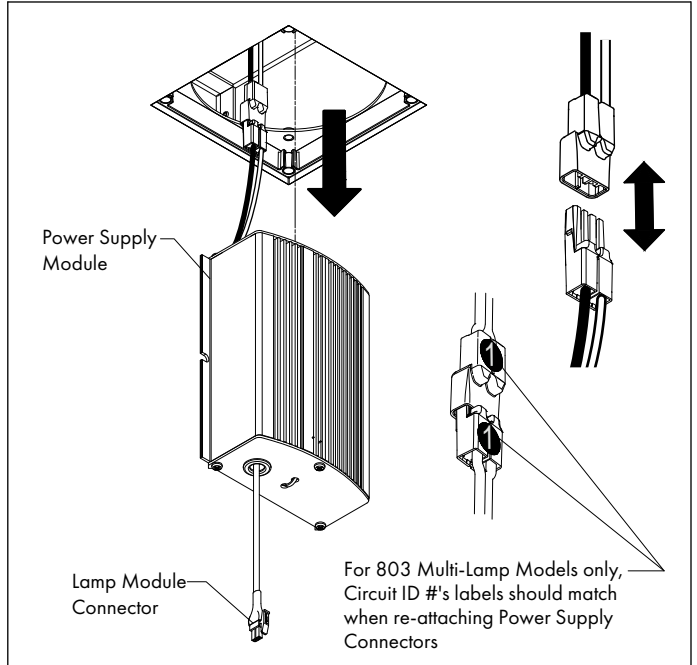

FIG 9.4 Replace with Retrofit Power Supply Module
STEP 3 Pull Power Supply Module through ceiling aperture & disconnect all wire connectors - **FIG 9.4**.
For Retrofit Replacement: Replace all parts in steps above in reverse order. Be sure hooks engage into junction box as shown in **FIG 9.4**.